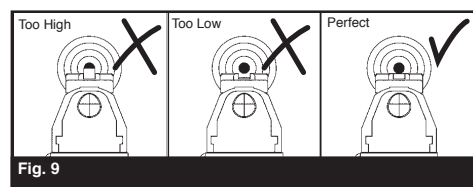

Fig. 9
- The air pistol is correctly aimed when the front sight blade is positioned exactly in the notch of the rear sight. The top of the front sight blade should be even with the top of the notch in the rear sight. The bullseye should appear to rest on the top of the front sight (See Fig. 9).